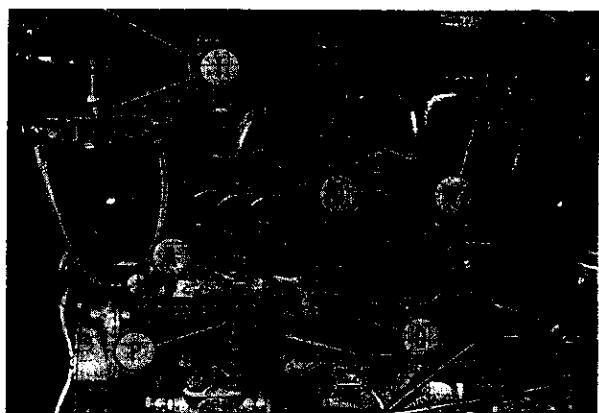

Fig. 48—Hand primer and bleed screw location on injection pump having pneumatic governor.
On early B-275 model tractors having the pneumatic governor, be sure there is sufficient fuel in tank, loosen the sediment bowl and allow same to fill, then tighten bowl. Loosen bleed screw (I—Fig. 48) on top of fuel filter and operate hand primer (P) until bubble free fuel flows, then tighten bleed screw. Loosen bleed screw (A) on injection pump and operate hand primer until bubble free fuel flows, then tighten bleed screw.